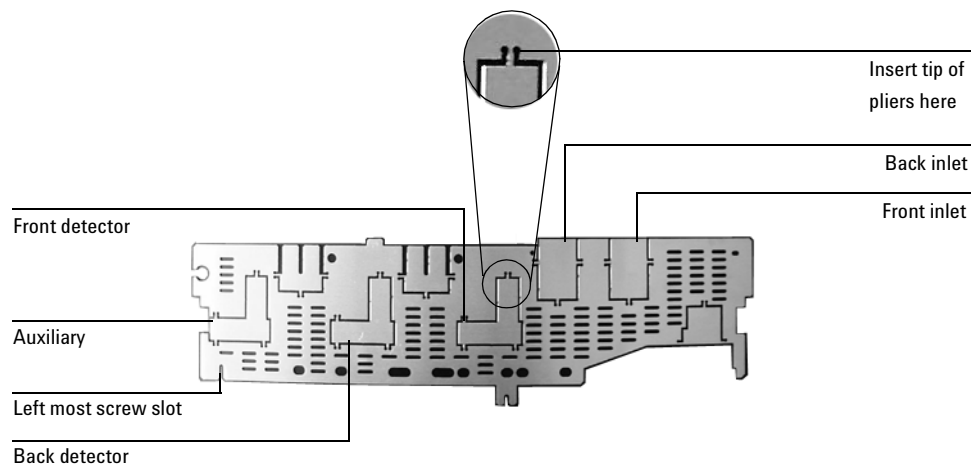

Figure 341-13 Top rear panel cutouts
- Using a pair of needle-nosed pliers, remove the appropriate top rear panel detector cutout for the μ -ECD. Also remove any cutouts needed to access other manifolds or accessories installed in the GC. See Figure 341-13.